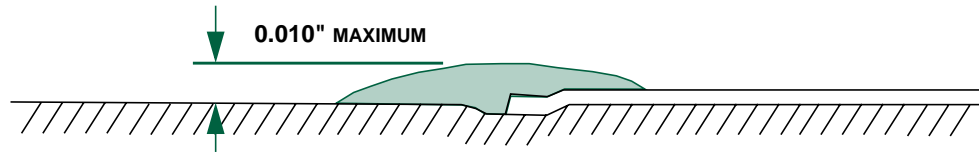

FIGURE 4 - FAIRING IN OF SEALANT STEP
- Step 6. Remove the masking tape. If necessary, within the sealant's application life, smooth out the forward facing sealant step left by the removal of the tape (see Figure 4) using a spatula or a finger while wearing gloves. The sealant may be then smoothed with a 50/50 mix by volume of isopropyl alcohol and water.